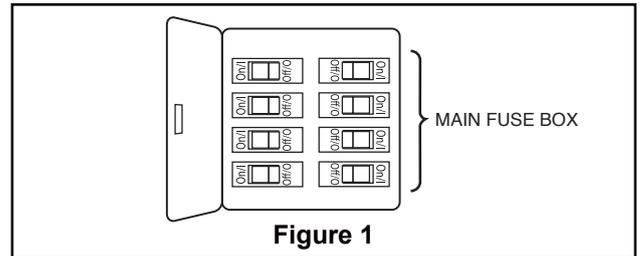

Figure 1
1. Remove one of the two shoulder screws in the hanger bracket. Loosen the second shoulder screw without fully removing it. Assemble canopy by rotating key slot in canopy over shoulder screw in hanger bracket. Tighten shoulder screw. Fully assemble and tighten second shoulder screw that was previously removed. (Figure 1)
1. Position the blade over the blade holder with threaded posts showing. Make sure the bottom edge of the blade is fully seated against the blade holder. With a phillips screwdriver, tighten 3/16"-24 washer head screws and fiber washers to secure the blade to the blade holder. (Figure 1)